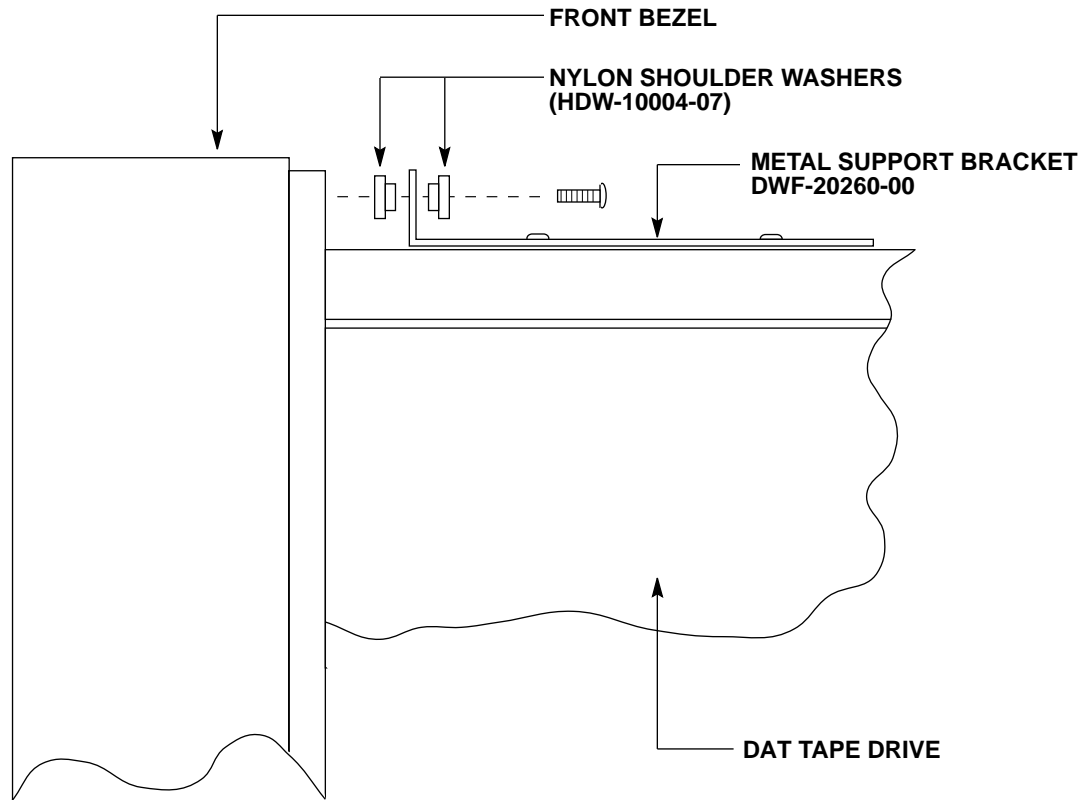

Figure 12 - Securing the Drive Assembly to the Front Bezel
7. Before you tighten the screw holding the DAT drive to the metal support bracket, make sure you are satisfied with the way the drive assembly is aligned with the cutout in your computer's front bezel. Once the drive (or drives) are properly positioned, install the screw that holds the plastic mounting base to the chassis bottom and tighten the screw holding the drive (or drives) to the metal support bracket. Finally, tighten the screw that secures the drive assembly to the front bezel, as shown in Figure 12.